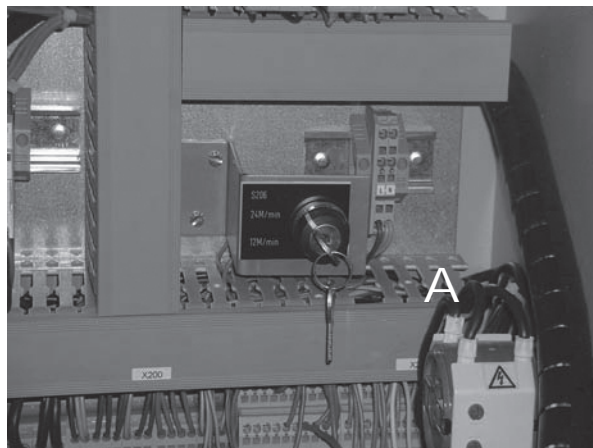

Fig.7-02 Key switch
- Switch the key switch at the inside of the switch box on the platform in the required position and close the switch box. See fig.7-02, A.